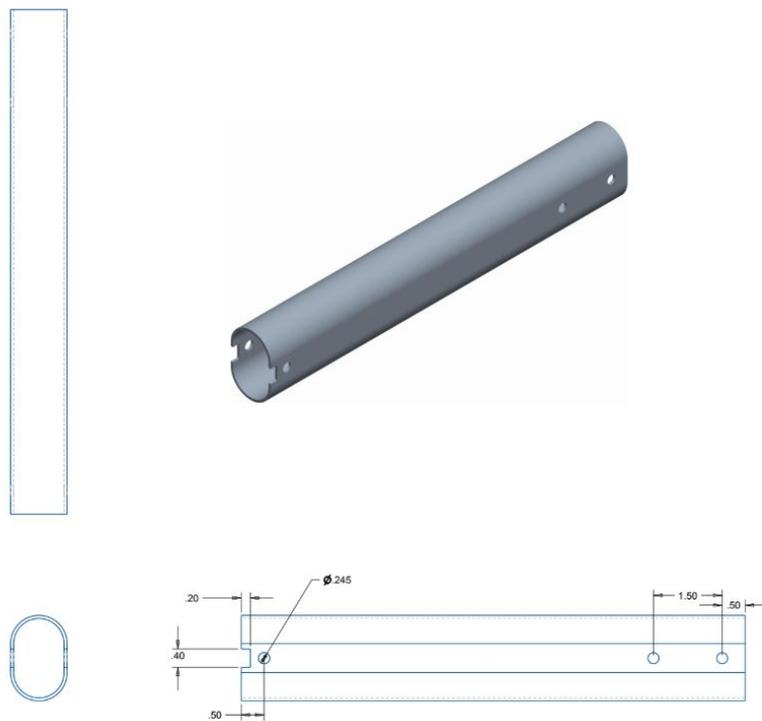

Figure 33. Extension frame engineering drawing.
5. Punch holes and the notch through the extension frame (Figure 33)